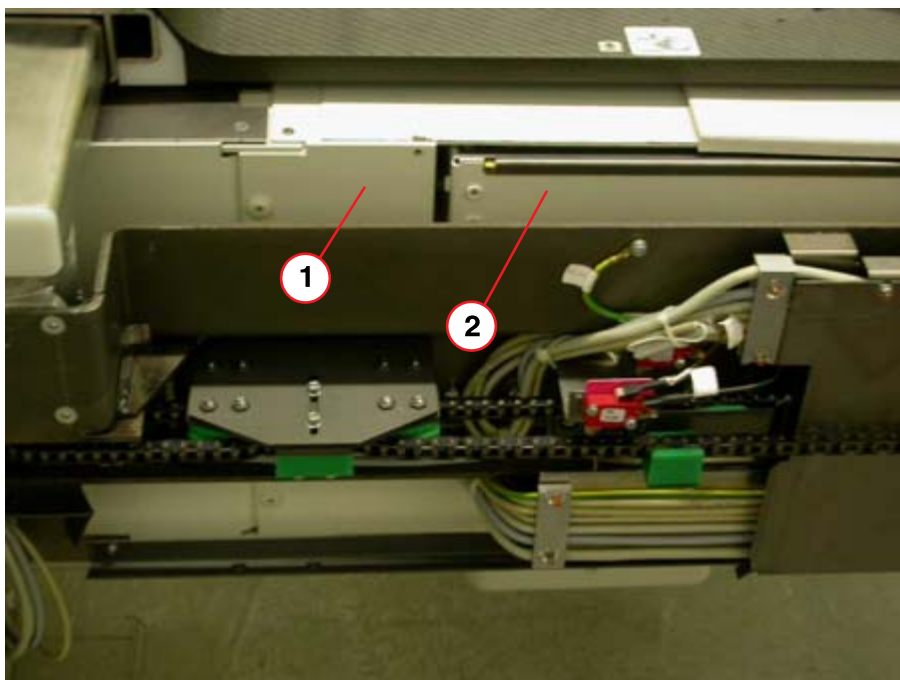
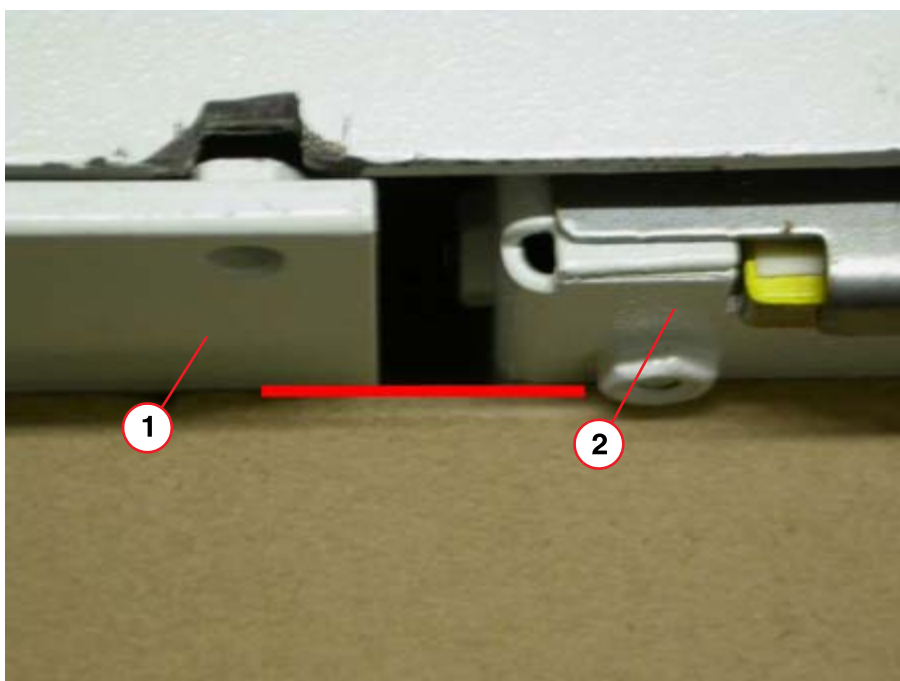

Fig. 39: Cassette position - 1
Fig. 40: Cassette position -2
- Move the cassette to the reference position ((Fig. 39 / p. 66), (Fig. 40 / p. 66)) using the service keys **S1/S2**.
Reference position: Side plate edge (1/ Fig. 40 / p. 66) and cassette box edge (2/ Fig. 40 / p. 66) have to be flush (± 1 mm).